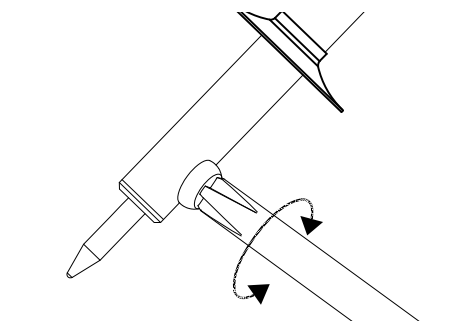

Fig. 6
1. Unscrew the nut and remove the nut and barrel. (Fig. 6)
3. Reinstall the nut and barrel. Tighten the nut securely. (Fig. 6)
3. Make sure Soldering Iron tip is fixed in position and secure. (Fig. 6 & 7)